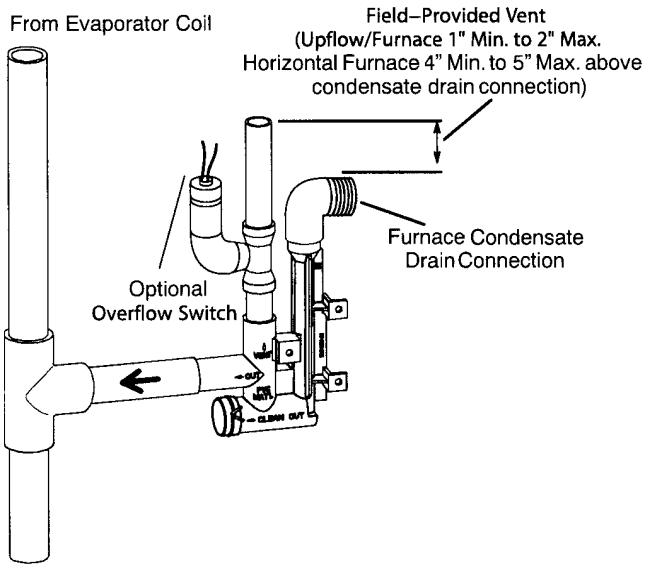

Figure 54
1. Gas piping may be routed into the unit through either the left or right hand side. Supply piping enters into the gas valve from the side of the valve as shown in Figure 54. Move Bellows grommet to side which gas line enters. Ensure opposite gas line hole is plugged with supplied plug.